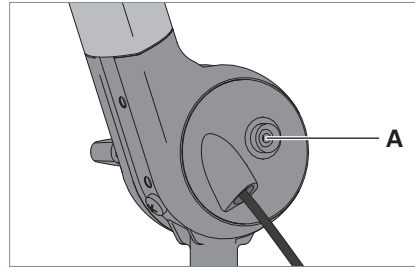

Fig. 6: Pushbutton for grounding cable.
- ▶ Connect one end of the provided grounding cable to the pushbutton **A** of the luminaire, see Fig. 6.